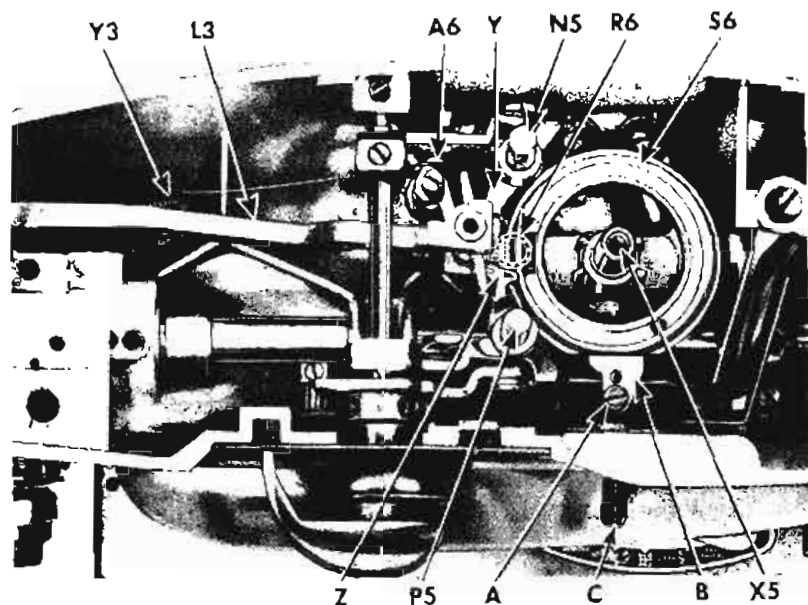

Fig. 68. Location of Ball Pivot on Driving Arm
chine so that ball pivot R6 rides in socket provided for it in pattern selector S6, as shown in Fig. 68.
CAUTION: Make certain that tension arm A6 is in correct position in relation to driving arm L3, as shown in Fig. 68.
3. Remove spring Y3, Fig. 68.
2. Make certain that driving arm ball pivot R6 is engaged with pattern selector S6, as shown in Fig. 68.
5. Replace spring Y3, Fig. 68.